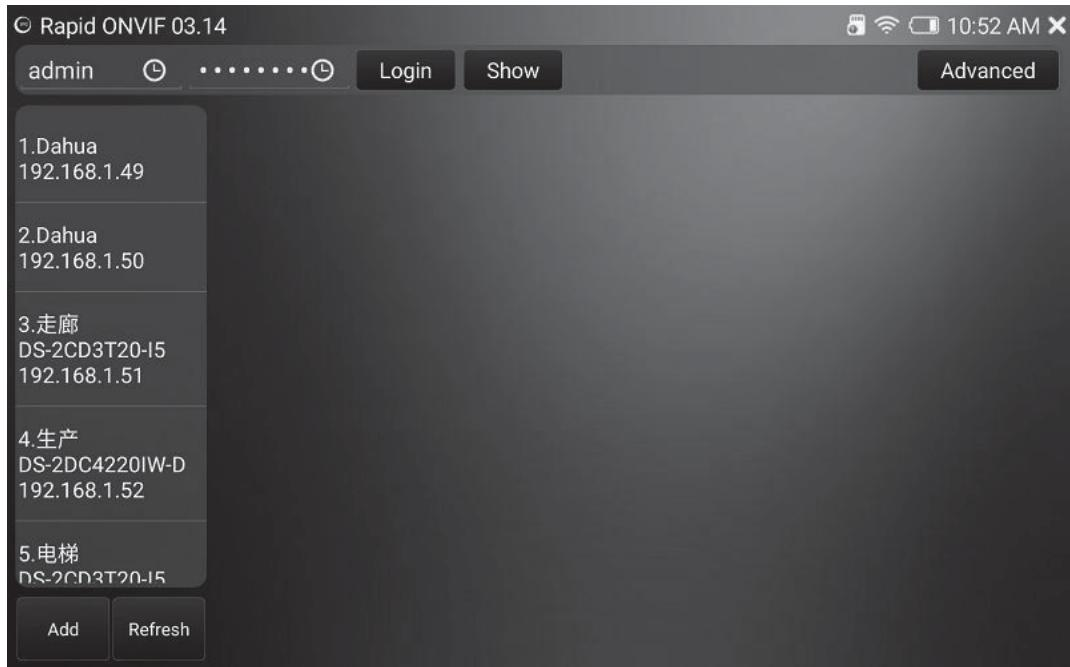

Figure 13
1) Input the username and password in the second column, touch the login button, by default, username and password are both ‘admin’, if it prompts error username or password, touch logout to edit the value. By default, it logs in automatically, you can disable it in advanced setting menu. Click the small  icon on the right of username and password to view or delete the history username and password records, as shown in Figure 13.